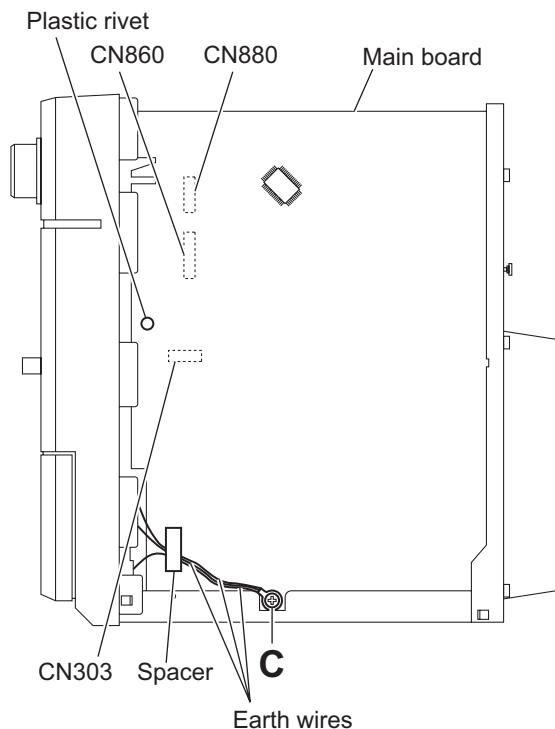

Fig.4
3.1.2 Removing the front panel assembly (See Figs.4 to 7)
(1) From the right side of the main body, remove the screw **C** attaching the earth wires on the reverse side of the main board. (See Fig.4.)
After attaching the earth wires, fix them with a spacer as before. (See Fig.4.)
(2) Remove the plastic rivet attaching the main board. (See Fig.4.)
(3) From the inside of the main body, disconnect the card wires from the connectors (CN303, CN860, CN880) on the forward side of the main board. (See Fig.4.)